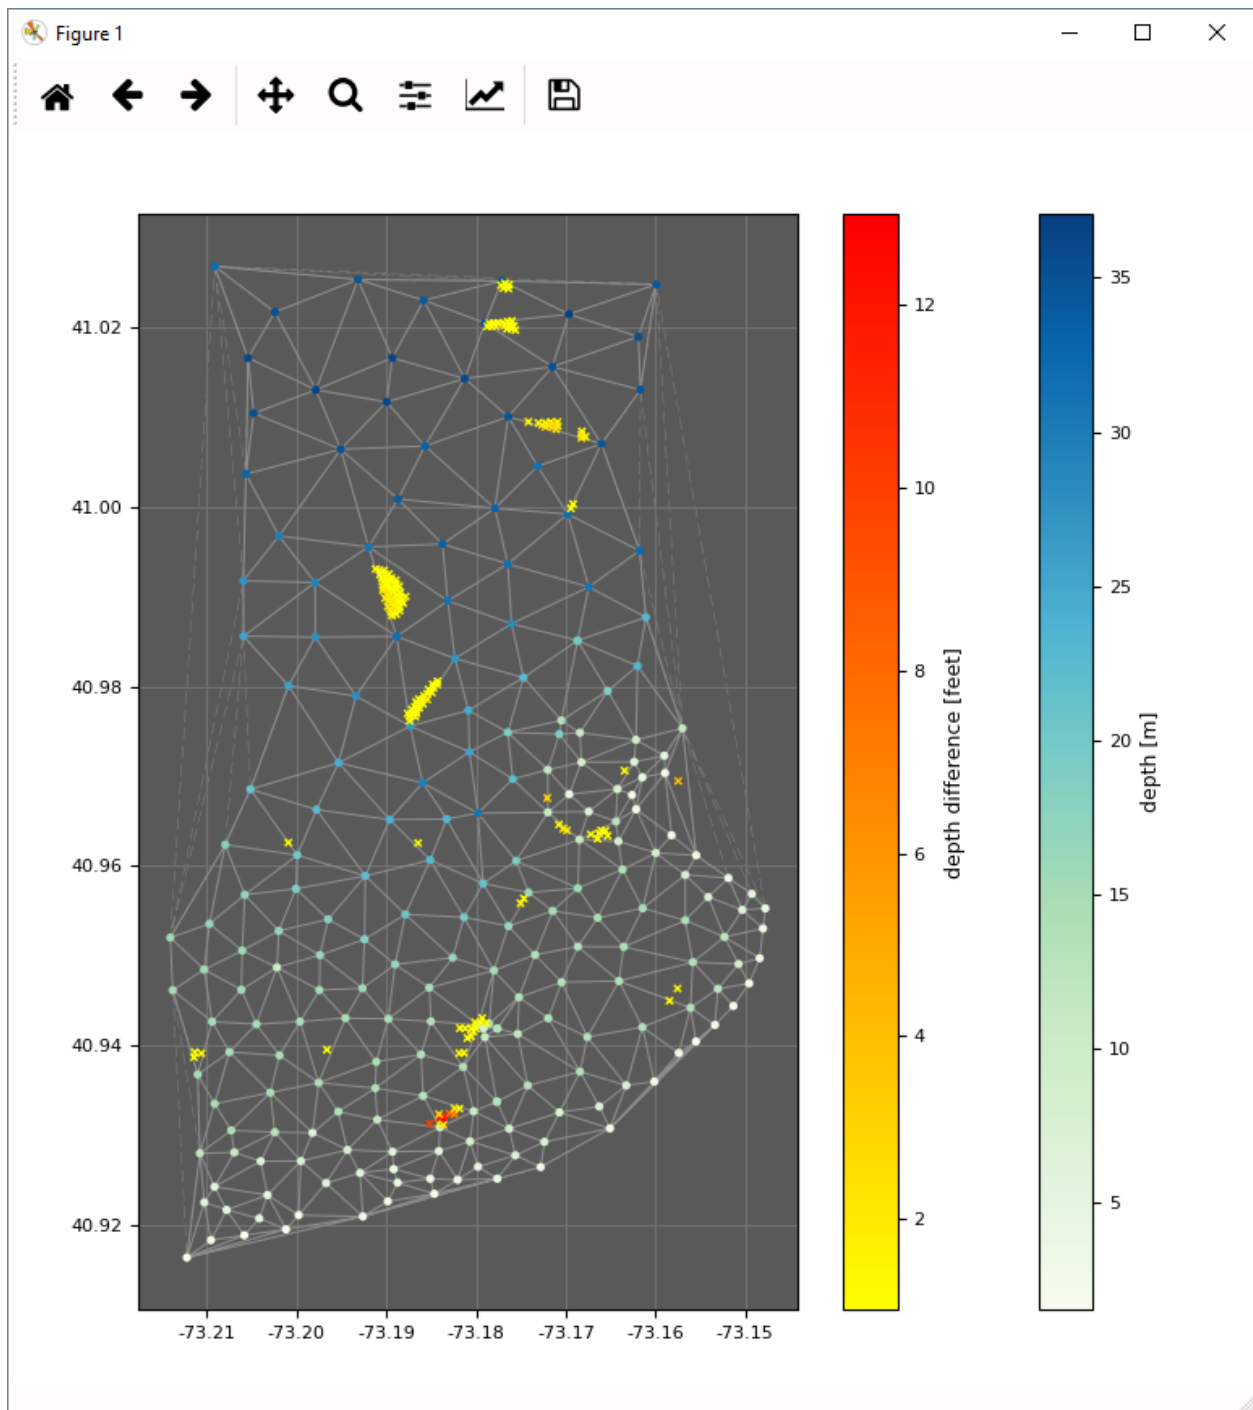

Fig. 2.69: Triangle rule's output display.
- After executing, the results are also shown graphically (Fig. 2.69). Chart-scale soundings are colored by depth, and flagged survey-scale soundings that may not be adequately represented are colored by their discrepancy.